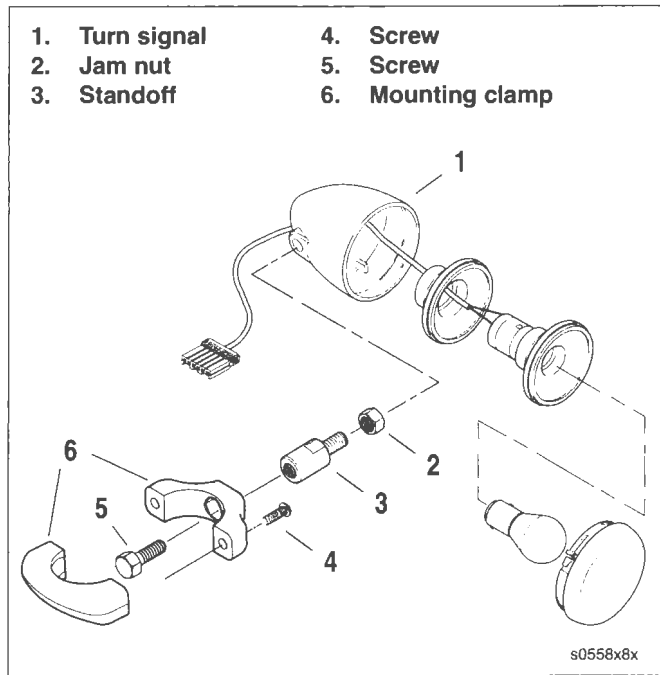

Figure 8-60. Front Turn Signals: FXSTB
- a. For FXSTB models, see Figure 8-60. Remove two screws (4) from each mounting clamp. Hold jam nut (2) and remove screw (5) to detach turn signal.